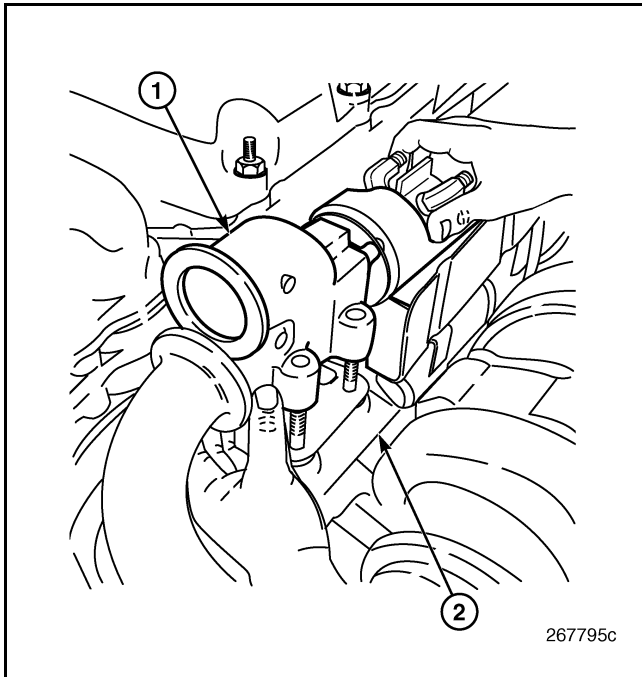

Figure 500 — EGR Valve Removal
5. Remove the four nuts retaining the EGR valve assembly to the exhaust manifold and remove the valve assembly (Figure 500). Remove and discard the metal gasket from the manifold.